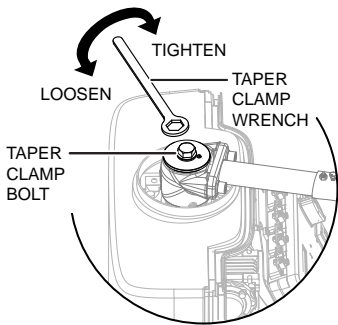

Figure 9. Taper Clamp Bolt and Taper Clamp Wrench
2. Loosen the taper clamp bolt with the taper wrench (Figure 9).